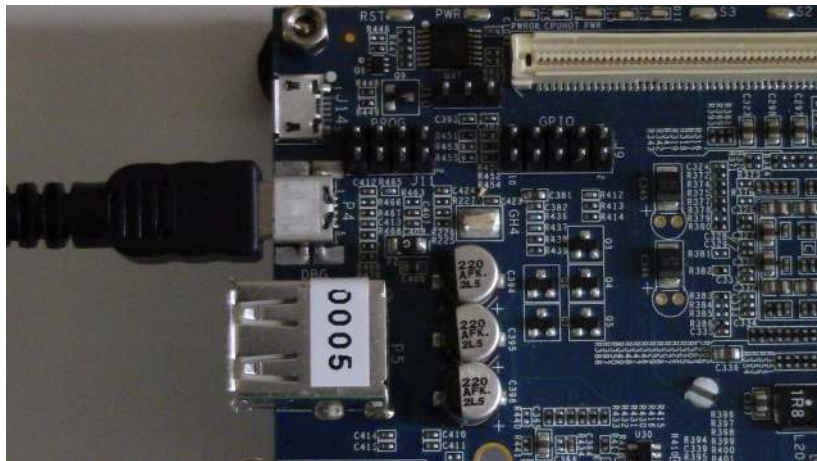

Figure-5: Connecting a USB mini cable for serial console access
- Next, connect an external keyboard and mouse to the MinnowBoard. Then connect a USB mini cable to your computer and the MinnowBoard as shown in Figure -5. This connection will be used to access the serial console of the MinnowBoard.